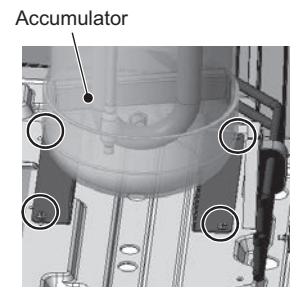

Figure 6
- (7) Remove the four screws from the accumulator fixing accumulator legs. (See Figure 6.)